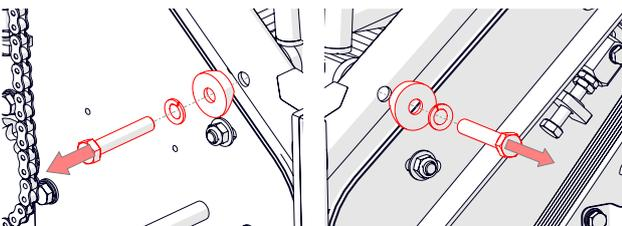

Fig.12F - Remove the shear blade top bolt and saddle washer
6. Remove the 2 x M12 top bolts [19 mm spanner] and saddle washers from both sides of the machine securing the shear blade adjuster block (Fig. 12F).